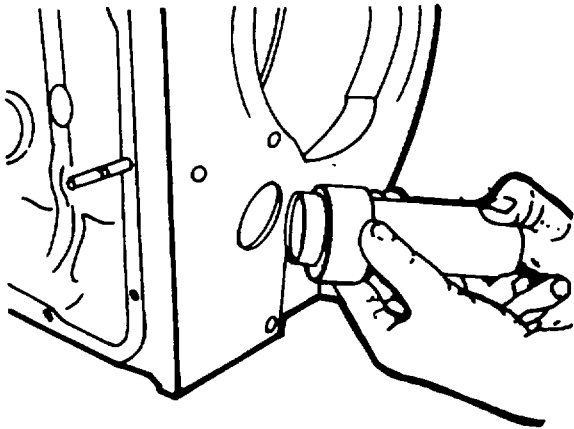

Figure 5-20. Installing Bore Sealing Cover
6. If the sealing cover for the bore at the flywheel end of the camshaft is missing, install a new one; apply jointing compound and caulk (use press-in device No. 003-0448, figure 5-20).